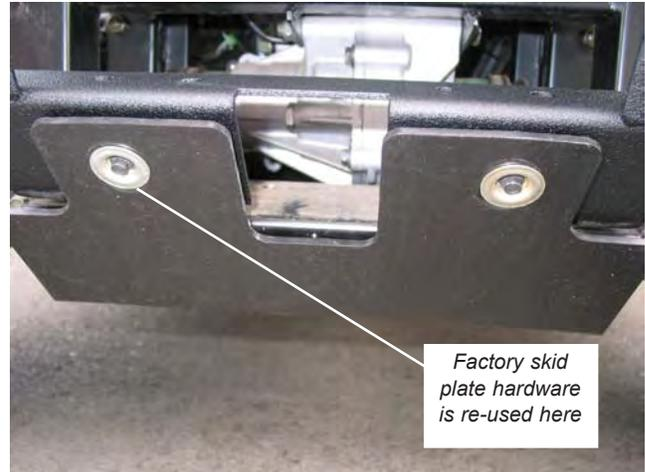

Figure 4
4. If vehicle is equipped with factory skidplate, as shown in Figure 4, reattach to bumper using factory supplied hardware. One 1/4 flat washer and one M6 x 1.0 nylon lock nut, provided, will be required on each side on back surface, to retain hardware. Torque to recommended specifications of 8lb. ft. (10.8 N-m).